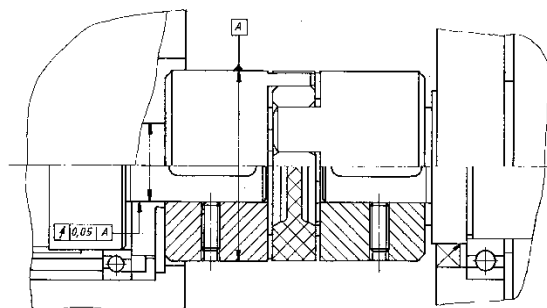
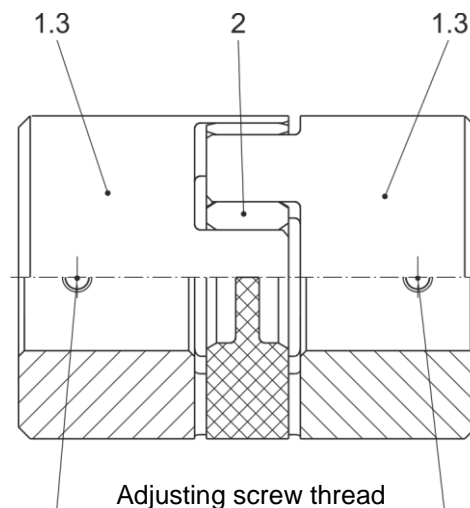

Fig. 6
Fig. 10
In case of customer-side provided bores, please observe the shaft run-out tolerance 0.05 to "A" (see Fig. 6).
Type 940_22_ (Fig. 10)
- Secure the hubs (1.3) axially (see also Installation Example Fig. 6). Axial securement takes place via a set screw (adjusting screw / Fig. 10).